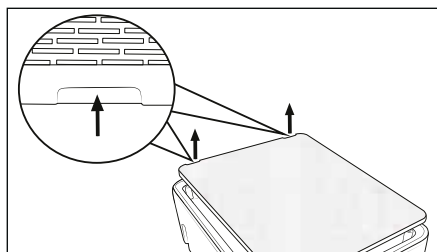

Fig. 5
- ◆ Wipe the appliance, stand ⑪ and feet ⑫ with a lightly moistened cloth. Do not use any solvents or cleansers which can damage plastic. If necessary, put a little mild detergent on the cloth and wipe this off afterwards with clear water.
- ◆ Remove the cover **6** using the recessed grips on the top of the appliance (see Fig. 5). Vacuum the cover **6** on both sides with a vacuum cleaner. It is not necessary to clean the EPA filter **7**. Fit the cover **6** back on the appliance so that the recessed grips are at top of the appliance.